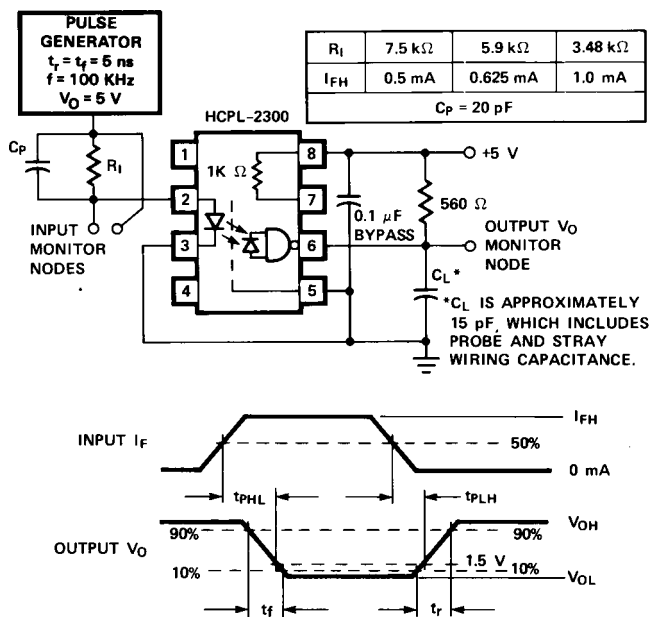

Figure 8. Test Circuit for t_{PHL} , t_{PLH} , t_r , and t_f .
8. C_P is the peaking capacitance. Refer to test circuit in Figure 8.